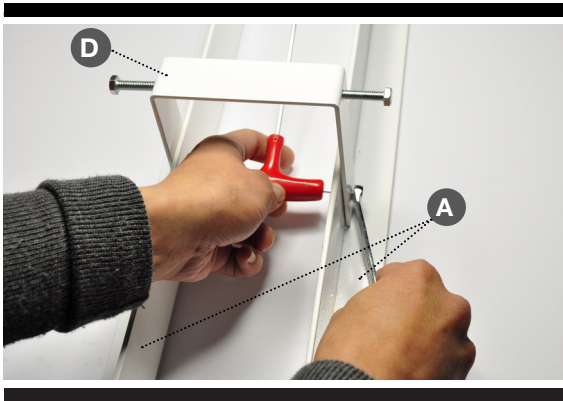
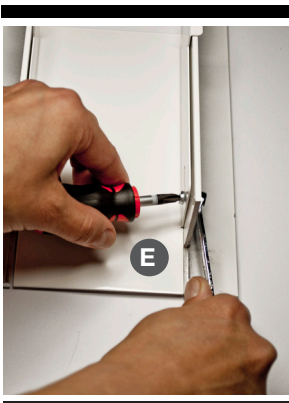

Fig. 3a
Fig. 3b
Mount the three U-form supports (D) on the two L-form profiles (A) using the provided screws in the pre-punched holes (see Fig. 3a); afterwards mount the two side doors (E) on the two ends left and right of the L-form profiles (see Fig. 3b).